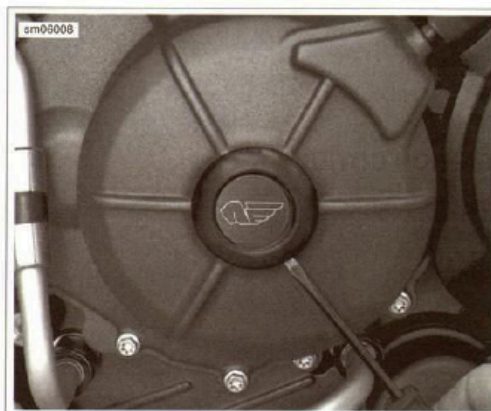

Figure 3-141. Ignition Cover Plug
1. See Figure 3-141. Remove ignition cover plug.